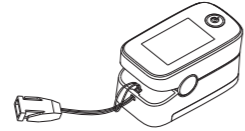

Figure 3 Lanyard Installation
- Pass the thicker end of the lanyard through the thinner end and tighten the lanyard (Figure3).